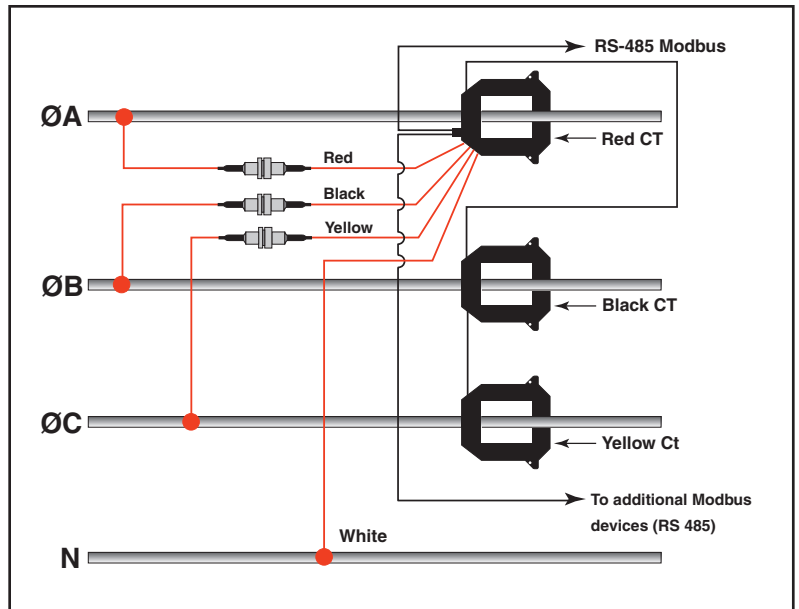

Figure 3 Typical 480 Vac max., 3Ø, 4-wire installation
3. Connect the voltage leads to the phase conductors, based on system type, as shown in Figures 3–6 on pages 5 and 6. Connect the red lead to Phase A, the black lead to Phase B, and the yellow lead to Phase C.